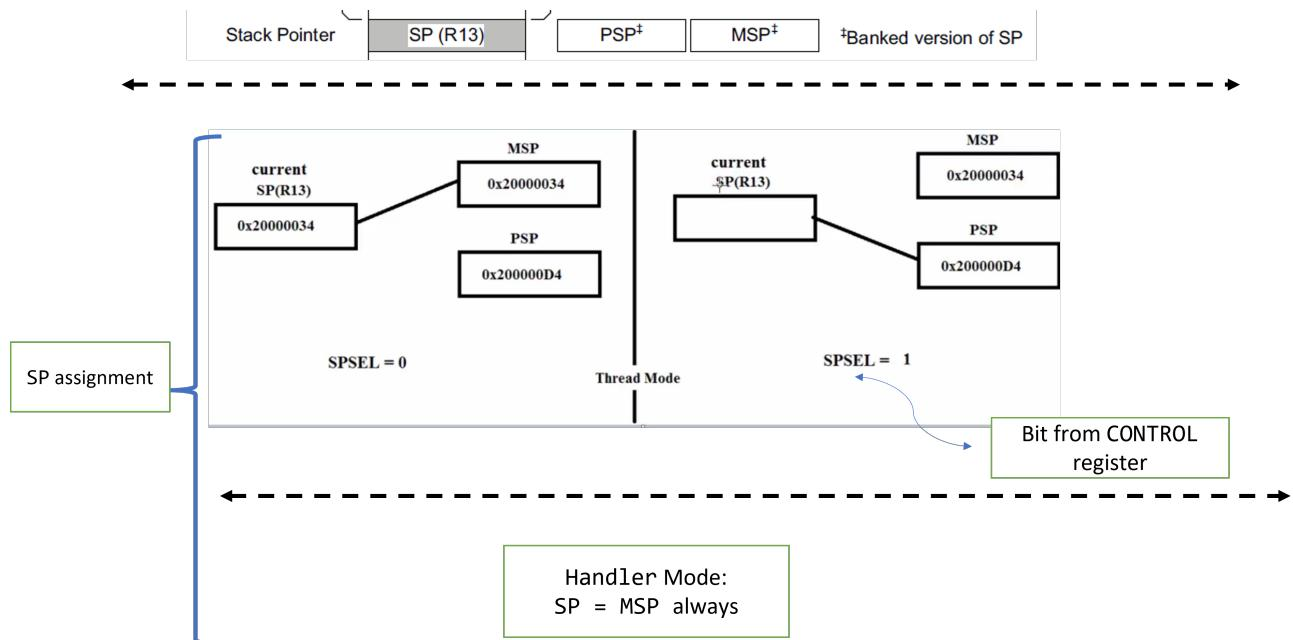

Figure 4.21: Stack Pointer assignment in thread and handler mode
- Bank stack pointer: if we go to the user guide of the cortex M4 processor, we see that at R13 we have a bank of pointers as shown in Figure 4.21.